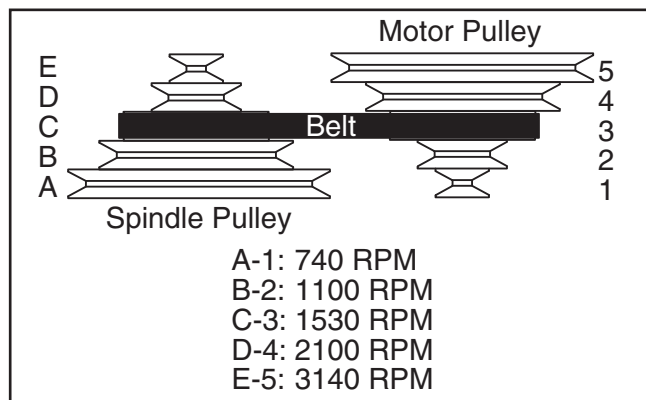

Figure 17. Spindle speed chart.
The highest speed is obtained when the belt is positioned on the smallest spindle pulley sheave (E) and the largest motor pulley sheave (5), as shown in **Figure 17**.